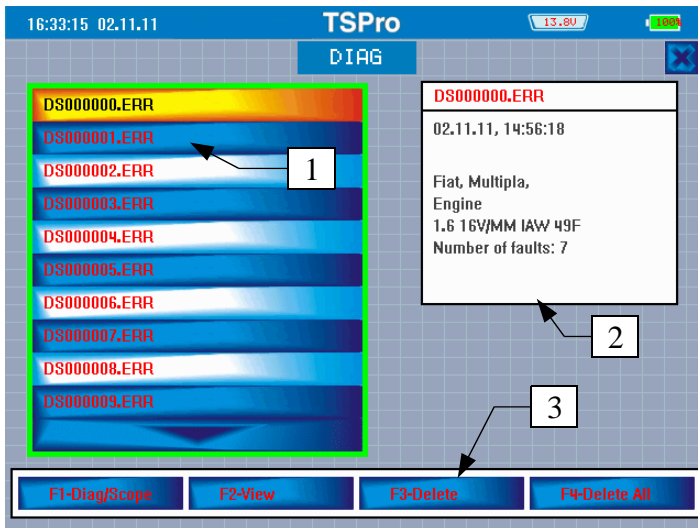

Figure 2.5
You can browse through saved records of previously performed diagnostic by selecting this function. First a list of stored records is displayed (see Figure 2.5). Details of a record is shown when the record is selected from the list (1) in the right hand side of the screen. Among the details are vehicle type and the manufacturer, which ECU was diagnosed etc.